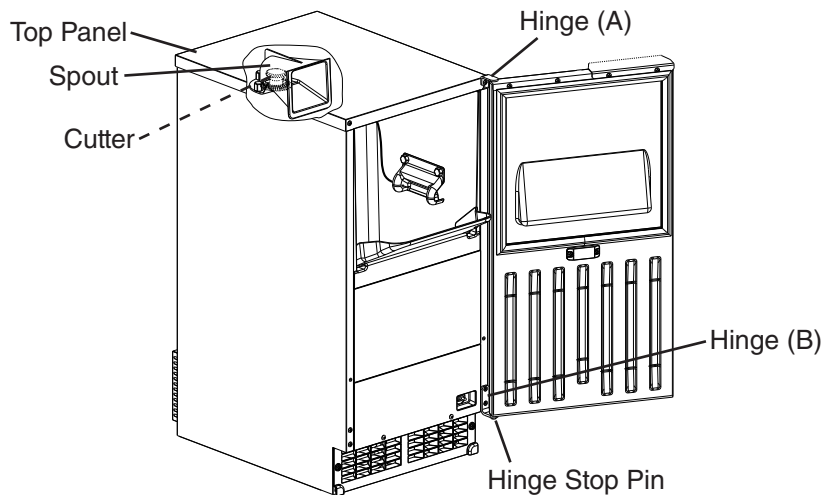

Fig. 10
- 3) While maintaining a hold on the door, remove the hinge stop pin from hinge (B). Pull out the bottom of the door slightly, then gently remove the door from hinge (A). See Fig. 10.
- 4) While maintaining a hold on the door, remove the hinge stop pin from hinge (B). Pull out the bottom of the door slightly, then gently remove the door from hinge (A). See Fig. 10.